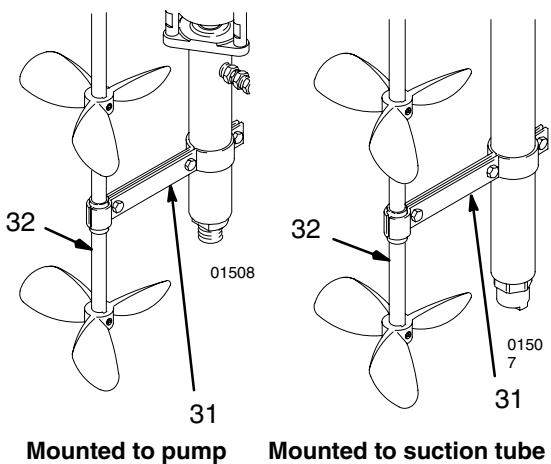

Fig. 2
1. Loosen the protector cup set screw (9). See Fig. 2.
2. Loosen the bottom clamp of the two clamps (12) on the rubber coupling (17). Both clamps are shown in the **Parts** drawings on pages 8 to 10.
3. Uncouple the air motor (10) from the shaft (30) by loosening the bottom two screws of the four steel coupling set screws (4). All four screws are shown in the **Parts** drawings on pages 8 to 10.
5. Install the mounting tube (35) with the gasket (29). (Mounting tube and gasket are included with Model 206219 only.)
6. Fasten the mounting tube to the cover with the cover plate screws (A).
7. Install the agitator shaft (30) up through the mounting tube, and recouple the air motor (10).
8. Push the rubber coupling (17) over the mounting tube.
9. Tighten the clamp (12).
10. Slide the protector cup (22) up close to the bottom of the mounting tube, then tighten the set screw (9).